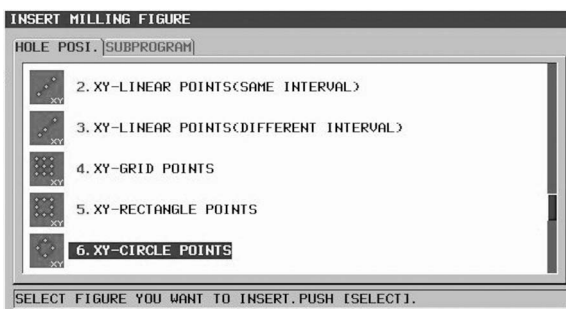

Figure 7-67 HOLE POSITION Dialog
- Choose item 1. CENTER DRILLING and press the SELECT soft key.
- Choose item 6. XY-CIRCLE POINTS from the list of options and press the SELECT soft key (Figure 7-67).